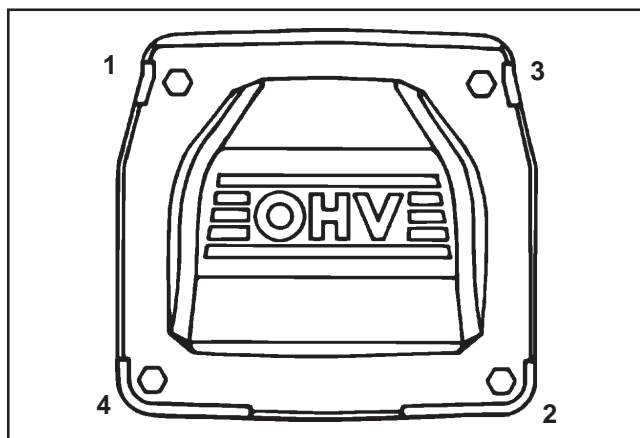

Figure 11-66. Valve Cover Fastener Torque Sequence.
5. Torque the valve cover fasteners to the proper specification using the sequence shown in Figure 11-66, unless the screws also attach the heavy-duty air cleaner main support bracket or other components. Installation and torquing of the screws will be performed after these parts are installed.